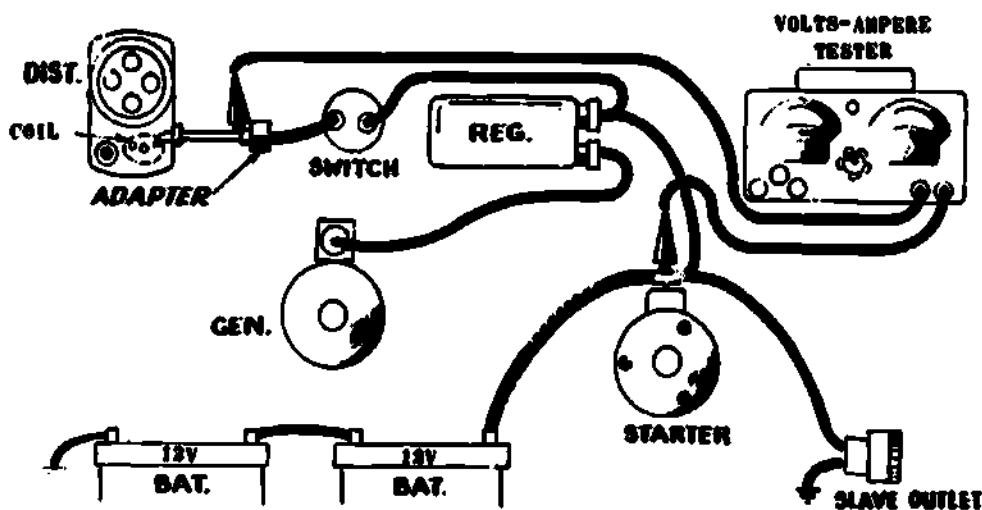

Fig 1-23. Primary circuit resistance test connections.
9. Ignition primary circuit resistance test (fig 1-23). Hard starting and misfiring can be caused by excessive resistance in the ignition primary circuit. Remember that resistance is affected by the type of material used, the size of the conductors, corrosion, and dirty or loose connections. Although there can be other causes of hard starting and misfiring, testing the resistance of the circuit during scheduled maintenance is a worthwhile time investment.